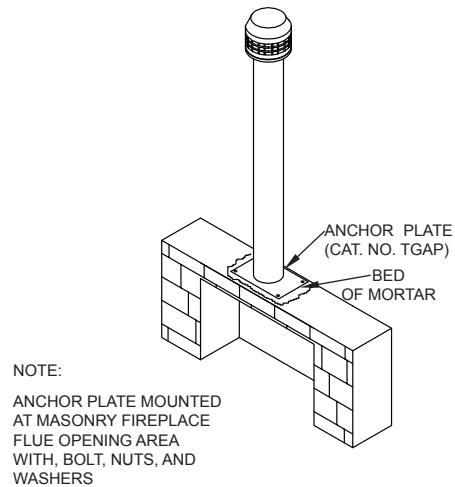

FIG. 2
1. Where the transition is to be made, apply a bed of mortar approximately 3/4 inches deep and approximately one (1) inch larger than the anchor plate. (See TG Chimney Catalog for anchor plate dimensions).
2. Insert four (4) 1/4-20 x 2" anchor bolts, head down into the mortar bed. J-style anchor bolts are preferred. An alternate method would be to allow the mortar bed to cure. Then, drill four (4) holes, matching the holes in the anchor plate and insert four (4) each 1/4-20 metal anchors. The anchor plate would then be attached by four (4) each 1/4-20 bolts.
5. When the mortar has set up, tighten the nuts onto the bolts. Proceed to stack Metal-Fab chimney pipe (TG) on the anchor plate (See FIG. 2 and TABLE 1 for framing dimensions).